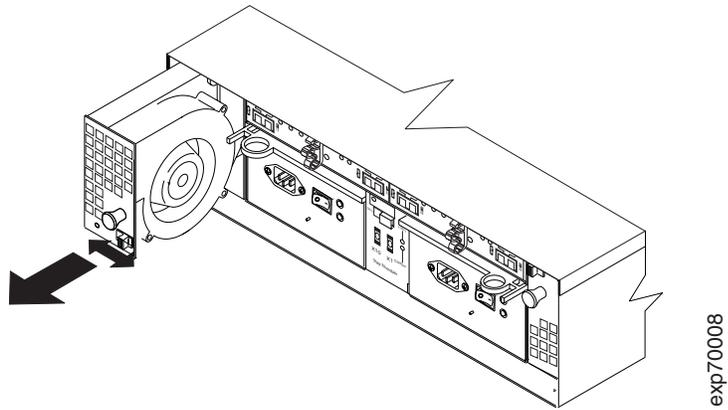

Figure 58. Replacing a hot-swap cooling fan
- b. Use the handle (black knob) to pull the fan from the fan bay as shown in Figure 58 on page 73.
The open side of the fan CRU faces the power supply and ESM CRUs. If the fan does not go into the bay, rotate it 180°. (See Figure 58.)